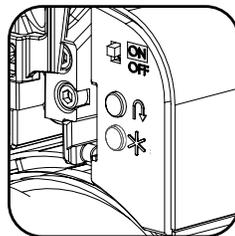

Figure 9
10. Turn 'ON' the dispenser by simply placing the switch to 'ON'. (Fig. 9)